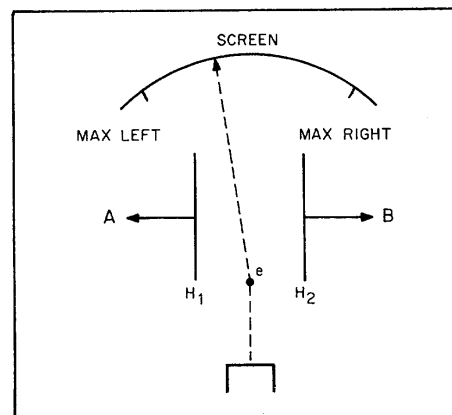

Figure 2B.—Deflection in a CRT.
- 2-42. In figure 2B, what potentials should be applied to points A and B to make electron (e) deflect in the direction as shown?